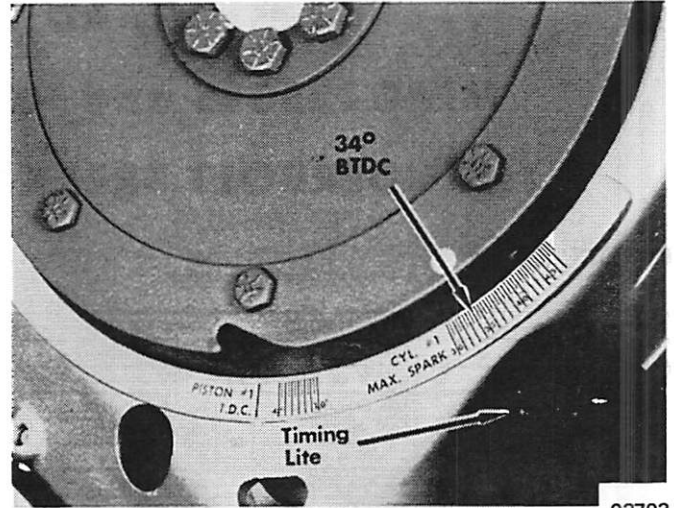
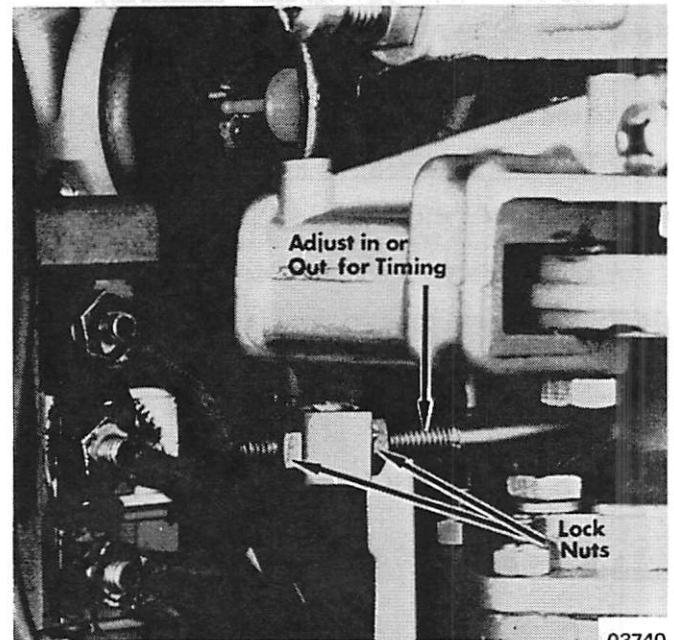

Figure 7. Timing Marks Aligned (Merc 1250SS)
Figure 8. Spark Advance Linkage
- Advance the vertical lever to wide open throttle position. Turn ignition key on, crank engine and hold the timing lite in line with the degree marking on the top cowl support frame. Adjust spark advance linkage (Figure 8) in or out until the timing mark (dots) on the flywheel are aligned with the 34° BTDC timing mark on the timing decal. (Figure 7)